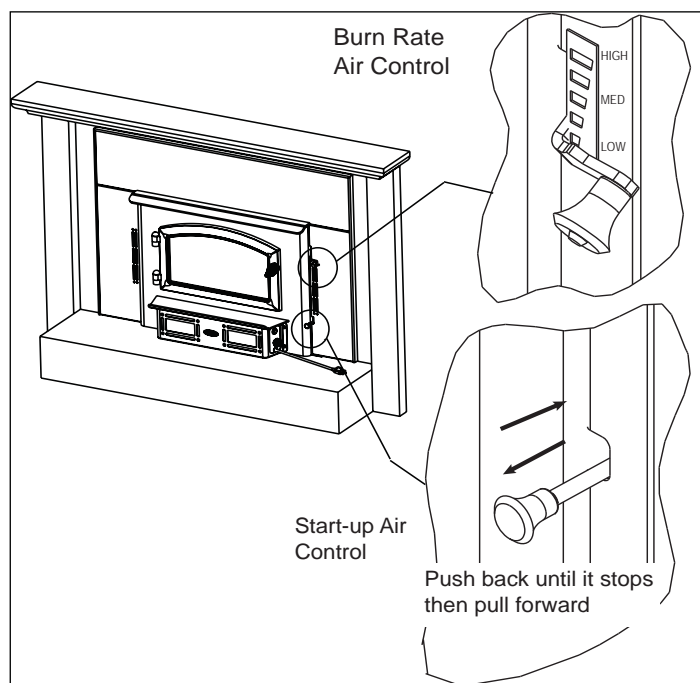

Figure 11.1 Start-up and Burn Rate Air Controls
The air control located at the upper right hand corner is used to adjust for burn rates. This is called the Burn Rate Air Control. **Figure 11.1 on page 11.**
- Push the Start-Up Air Control all the way back until it stops and then pull forward to the front of the appliance until it stops. **Figure 11.1.**
- The fire is now controlled by the air supplied by the Burn Rate Air Control. **Figure 11.1.**
- Push the Start-Up Air Control 3/8 inch (9.5mm) back to allow rear air to enter the firebox. **Figure 11.1.**